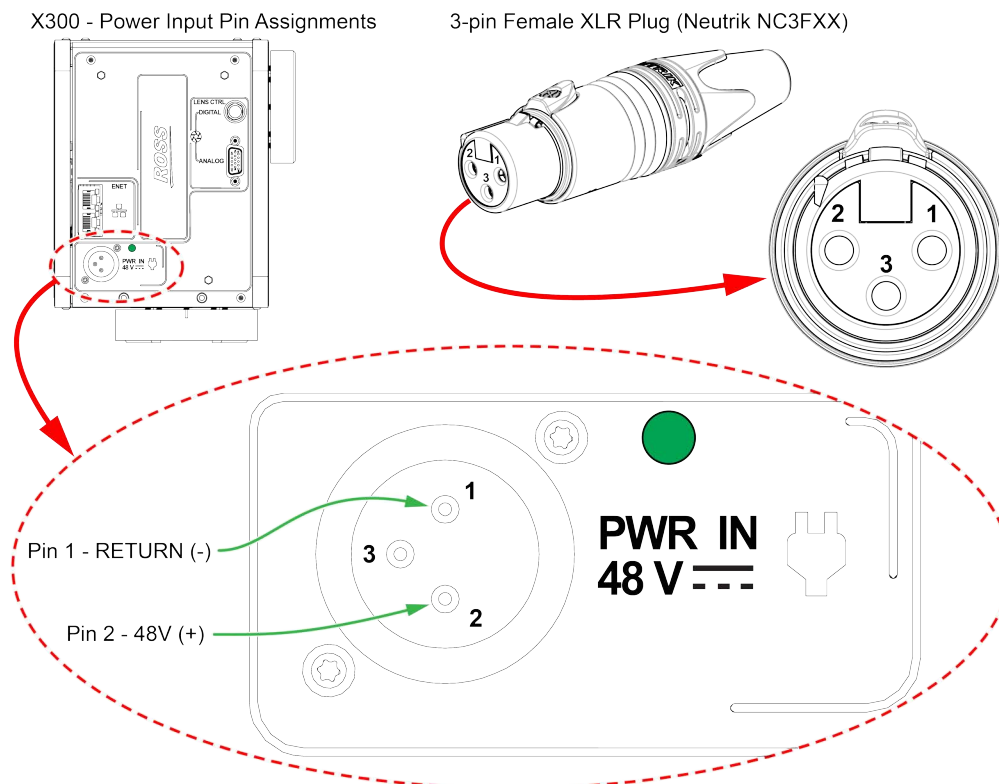

Figure 74 - - Power Input Pin Assignments (X300 shown; X350 power input is identical)
- › Pin assignments are as follows: Pin 1 - RETURN (-); Pin 2 - 48 V (+); Pin 3 - not connected. See **Figure 74**.